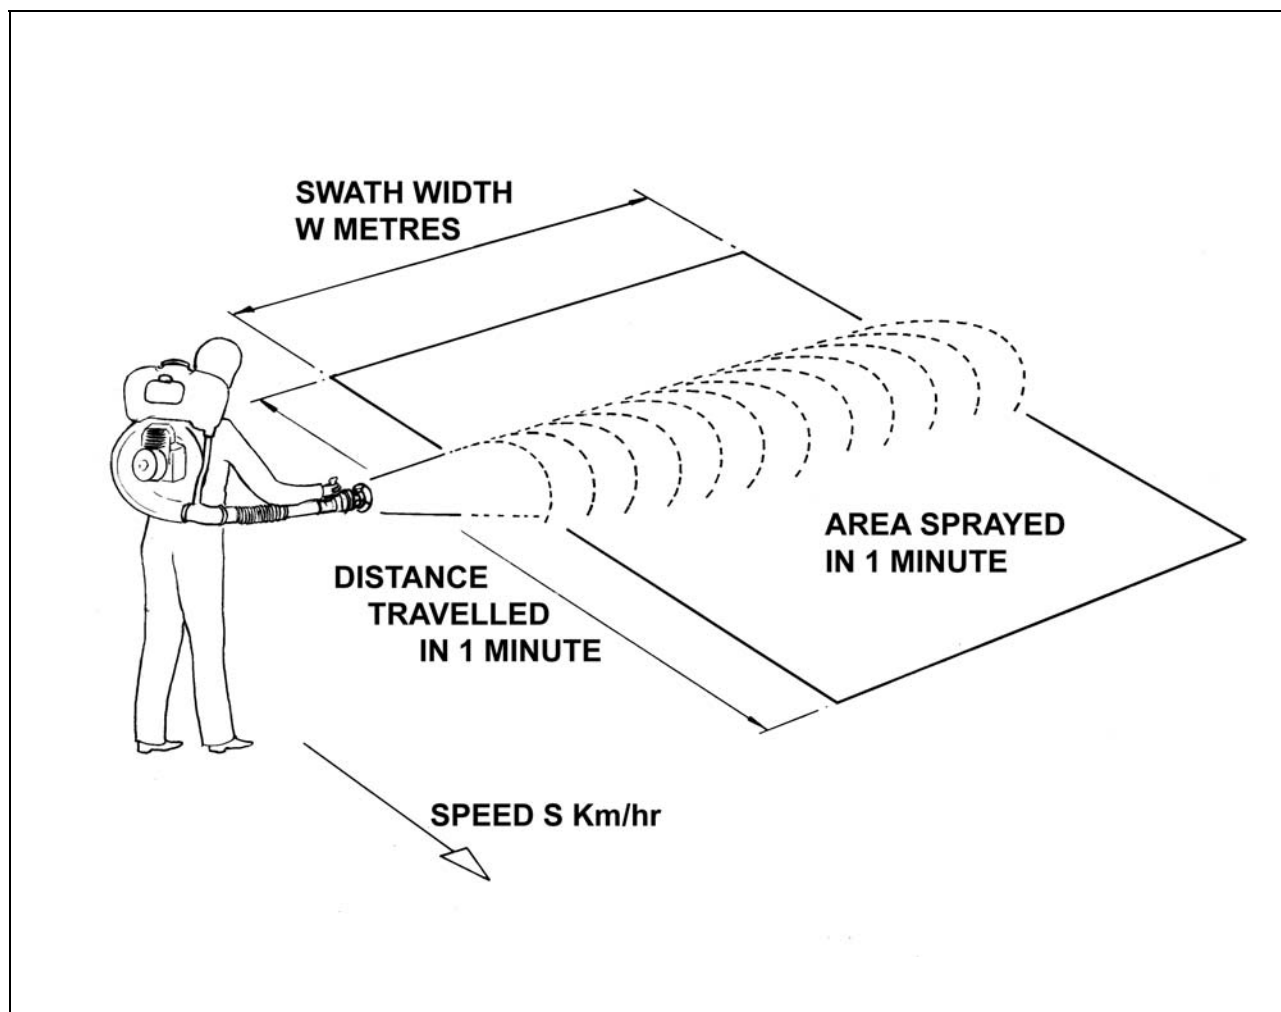

Fig. 3 – Coverage of Sprayer
3. Calculate the area treated by the sprayer per minute. Fig. 3 shows the sprayer being operated over a field crop.